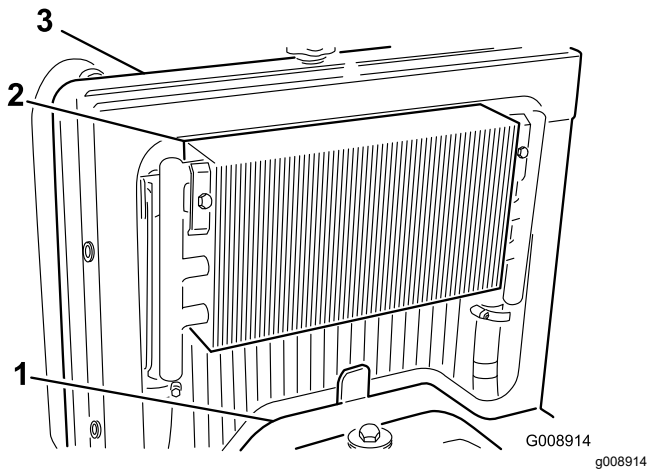

Figure 58
2. Remove the access panel (Figure 58).